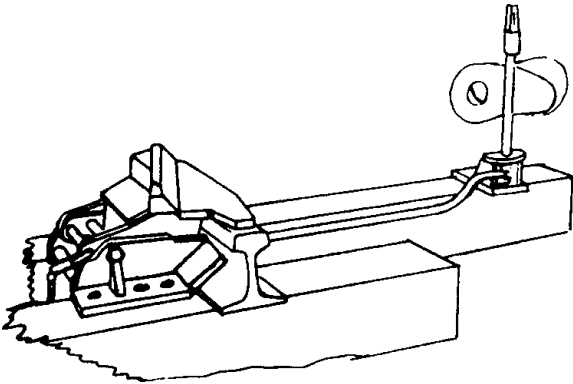

Figure 25 - EB Hinged Derail With
- 9.1 The Target Stand, See Figure 25, may be used with any Hayes Sliding or Hinged Derail to indicate whether the derail is on or off the rail, but it cannot be used to operate the derail.